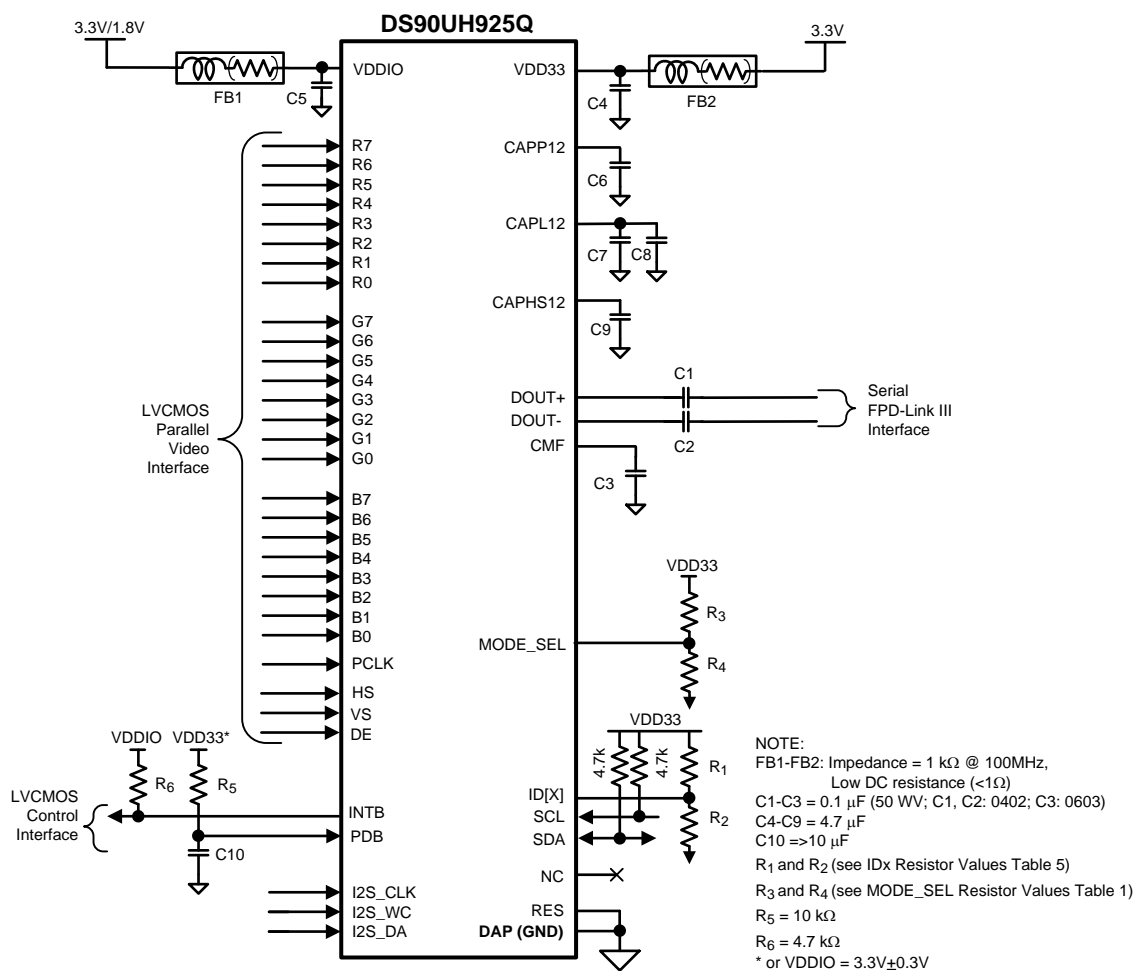

Figure 22. Typical Connection Diagram
Figure 22 shows a typical application of the DS90UH925Q serializer for an 85 MHz 24-bit Color Display Application. The CML outputs must have an external 0.1 μ F AC coupling capacitor on the high speed serial lines. The serializer has an internal termination. Bypass capacitors are placed near the power supply pins. At a minimum, six (6) 4.7 μ F capacitors (and two (2) additional 1 μ F capacitors should be used for local device bypassing. Ferrite beads are placed on the two (2) VDDs (V_{DD33} and V_{DDIO}) for effective noise suppression. The interface to the graphics source is with 3.3V LVCMOS levels, thus the V_{DDIO} pin is connected to the 3.3 V rail. A RC delay is placed on the PDB signal to delay the enabling of the device until power is stable.